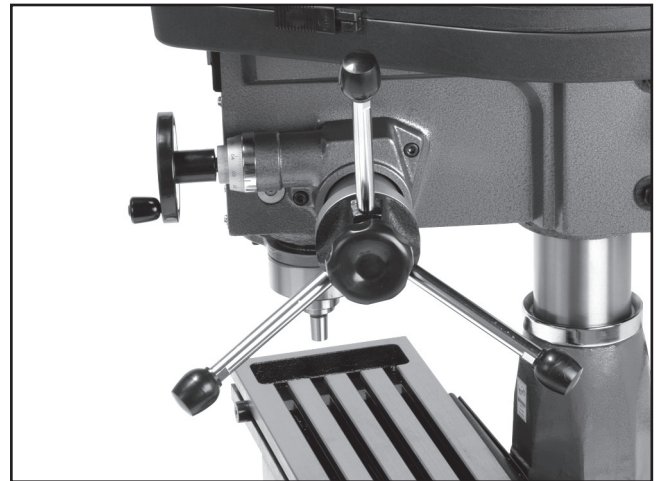

Figure 7. Downfeed handles installed.
2. Thread the downfeed handles into the pinion hub, as shown in **Figure 7**.